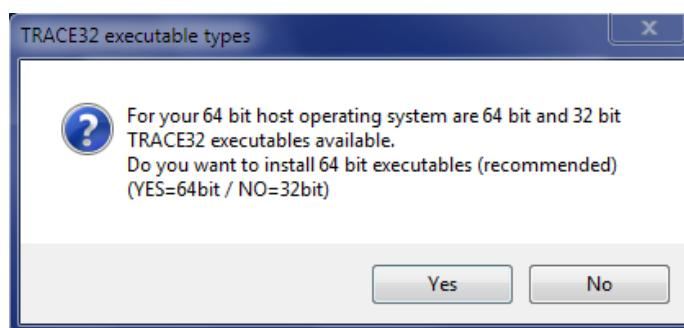

Figure 5.30: **TRACE32 executable type** dialog
10. In the **TRACE32 executable type** dialog, click **Yes** for a 64-bit OS (see Figure 5.30 on the facing page).